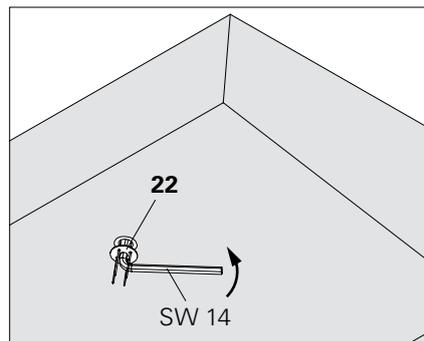

Fig. B1.01a
3. Remove the Anchor Positioning Stud M24 (22) from the Anchor Sleeve by means of an Allen Key SW 14.
- (Fig. B1.01a)